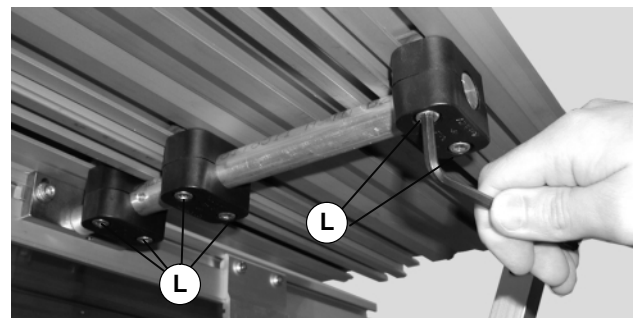

Figure 17
1. Loosen all clamp screws (L of Figure 17) on each support bar.